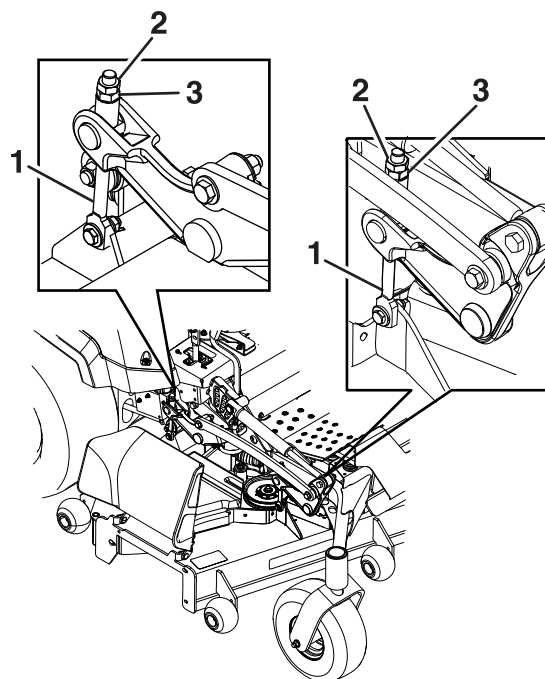

Figure 85
9. Fine-tune the adjustment nut on the front deck lift assembly by turning it (Figure 85).